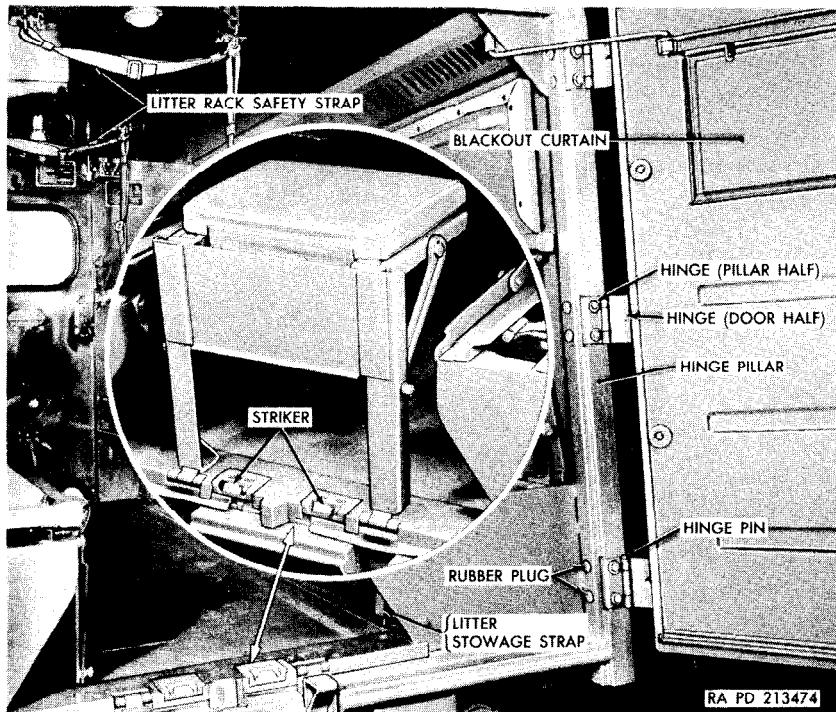

Figure 219. Patient compartment rear door adjustments.
c. Adjust Vertical Position of Door (fig. 219). Both doors are adjusted in the same manner.
- (1) Open the door and remove the two rubber plugs at each pillar hinge.
- (2) Loosen the four lockwasher screws that secure each hinge to the hinge pillar.
- (3) Raise or lower the door, as required, to provide equal and uniform space at top and bottom.
- (4) Tighten the four lockwasher screws at each pillar hinge.
- (5) Install the two rubber plugs for each pillar hinge.
d. Adjust Horizontal Position of Doors (fig. 219). Both doors are adjusted in the same manner.
- (1) Loosen the four lockwasher screws that secure each door hinge to the door.
- (2) Move the door to left or right, as required, to provide uniform contact at the weatherseals and equal and uniform space at the outer edges of both doors. If the horizontal adjustment required is excessive, adjust both doors.
- (3) Tighten the four lockwasher screws for each door hinge.
e. Adjust Rear Door Strikers (fig. 219). If the rear doors close hard, or if the contact at the weatherseals is unsatisfactory, adjust the
a. General. Hinges for both rear doors are serviced in the same manner. It is seldom necessary to replace all hinges for either door. The door hinge halves (fig. 219) may be removed or installed with the doors closed. If any of the body pillar hinge halves (fig. 219) must be replaced, the door must be open and must be supported from below before removing the hinge pins.
- (1) Close the door and remove the hinge pin.
- (2) Remove the four lockwasher screws that secure the hinge half to the door and remove the hinge.
- (3) Position the new hinge on the door and install the hinge pin.
- (4) Install the four lockwasher screws in the hinge. Adjust the alinement of the door if necessary (par. 261*b*), and tighten the four screws.
c. Replace Body Pillar Hinge Half (fig. 219).
- (1) Open the door and support it from below with a jack or blocking.
- (2) Remove the hinge pin.
- (3) Remove the rubber plugs from the two access holes for the hinge inner screws.
- (4) Remove the four lockwasher screws that secure the hinge and remove the body pillar hinge half.
- (5) Position the new hinge, alining it with the door hinge, and install the hinge pin.
- (6) Install the four lockwasher screws to secure the hinge. Remove the support from under the door, adjust the door alignment if necessary (par. 261b), and tighten the screws.
- (7) Install the rubber plugs in the two access holes.
- (4) Attach the safety strap snaps to the eyebolts.
b. Replace Litter Stowage and Holddown Straps (fig. 219) (Ambulance Truck M43).
- (1) Remove the two nuts, lockwashers, and screws that secure the bracket for each lower stowage strap to the side compartment and remove the strap and bracket. Remove the bracket from the strap. The buckle strap is removed in the same manner.
- (2) Engage the strap in the strap bracket, position the bracket on the side compartment, and install the two No. 10-32NF x $\frac{1}{2}$ cross-recess flathead screws, No. 10 lockwashers, and No. 10-32NF nuts for each bracket.